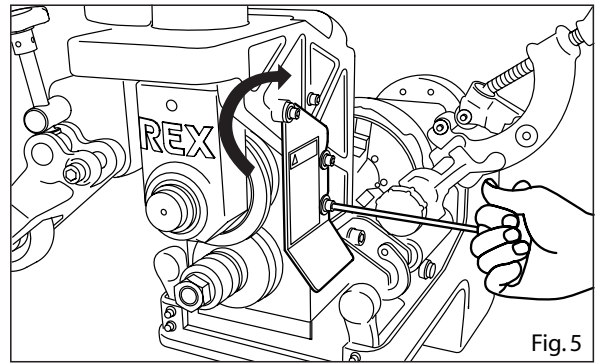

Fig. 5
### Replacing the Roller Set (Figs. 5, 6)
- 1) Loosen the bolts and turn the safety cover clockwise. (Figs. 5, 6)